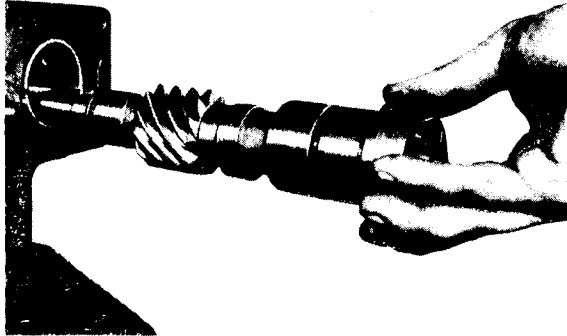

Fig. J.11. Removing Auxiliary Drive Shaft.
4. Withdraw the auxiliary drive shaft (Fig. J.11 or J.12), with a twisting motion, and the two 180° half thrust washers.